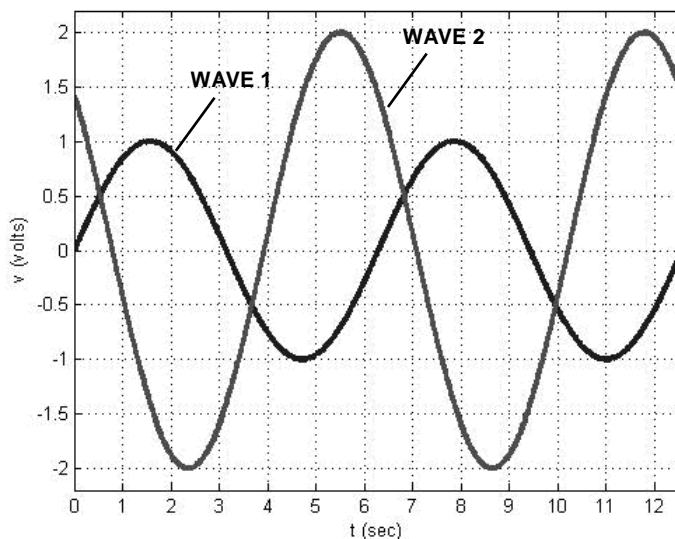

Figure 4. Sinusoidal waveforms for question 3.
1. (_/0.5) Obtain a proof, perhaps from your lecture notes, that for a sinusoidal waveform, V_{PEAK} (the peak value of the wave) and V_{RMS} (the root-mean-square value of the wave) are always related through the relationship given in equation (2) in Part 1 below. Start your proof from the definition of V_{RMS} given in equation (1).
3. (_/0.5) Figure 4 shows two sinusoidal waveforms. Calculate the phase difference between the two waveforms using equations (3) – (5) given in Part 2. By how much does wave 1 lead wave 2?